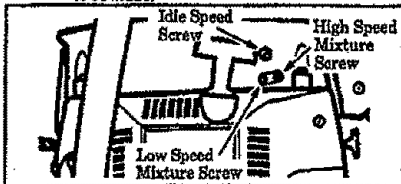

Figure 41
- Locate the three (3) carburetor adjusting screw openings to the right of the air filter cover. Figure 41.
- Start the engine and allow engine to idle three (3) minutes to warm up. The engine must be at operating temperature for proper adjustments to be made.